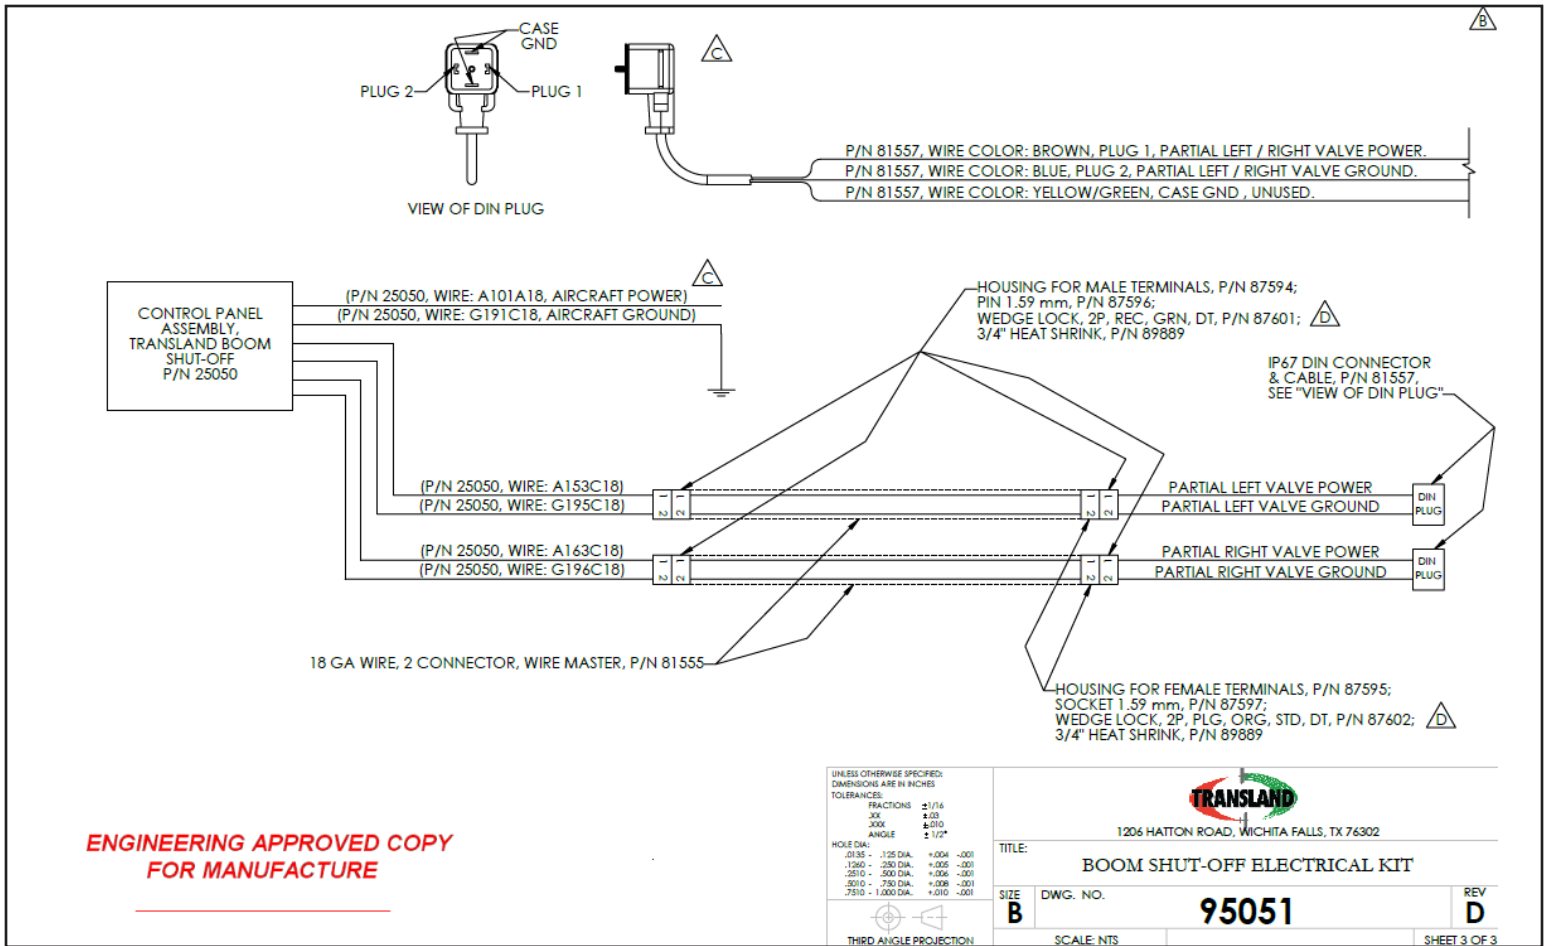

Figure 1-1: Wiring Schematic for Transland 50%/60% Boom Shut-Off Control Panel to Valves
6. Wire control panel to aircraft power and ground, using Figure 1-1.